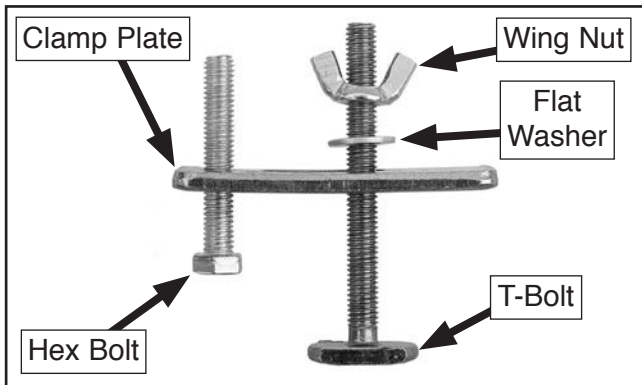

Figure 20. T-slot clamp components.
2. Thread hex bolt into clamp plate, then insert T-bolt through clamp plate and thread flat washer and wing nut (see **Figure 20**).